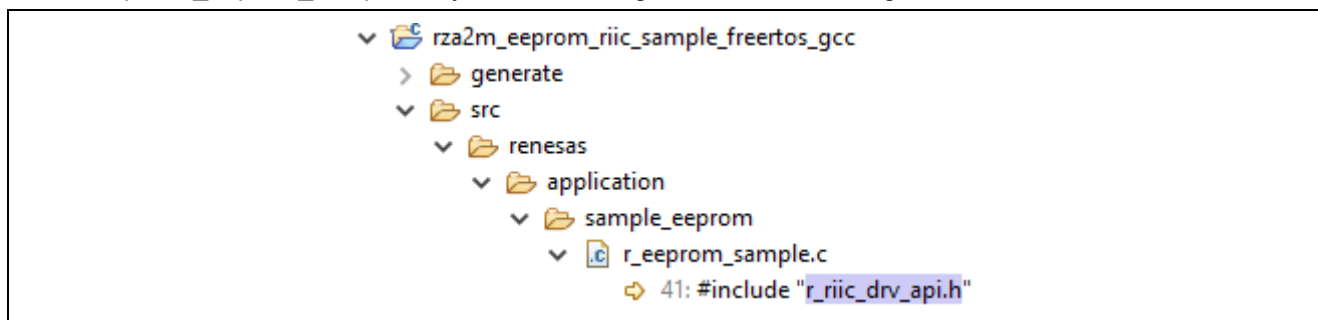

Figure 4-7 Searching the file that includes “r_riic_drv_api.h” <3>
- The result shows that “src\renesas\application\r_eeeprom_sample.c” in “rza2m_eeeprom_riic_sample_freertos_gcc” project includes “r_riic_drv_api.h.” Open “r_eeeprom_sample.c” by double-clicking. This is shown in Figure 4-7.